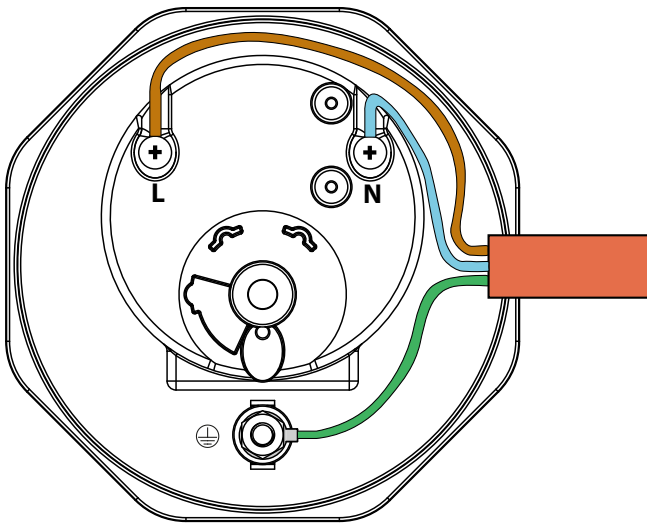

Fig. 79: Immersion Wiring
5. Disconnect the wires to the immersion. Ensure all fixings for securing earth and immersion cover are retained. See Fig. 79.
8. Re-wire as per Fig. 79.